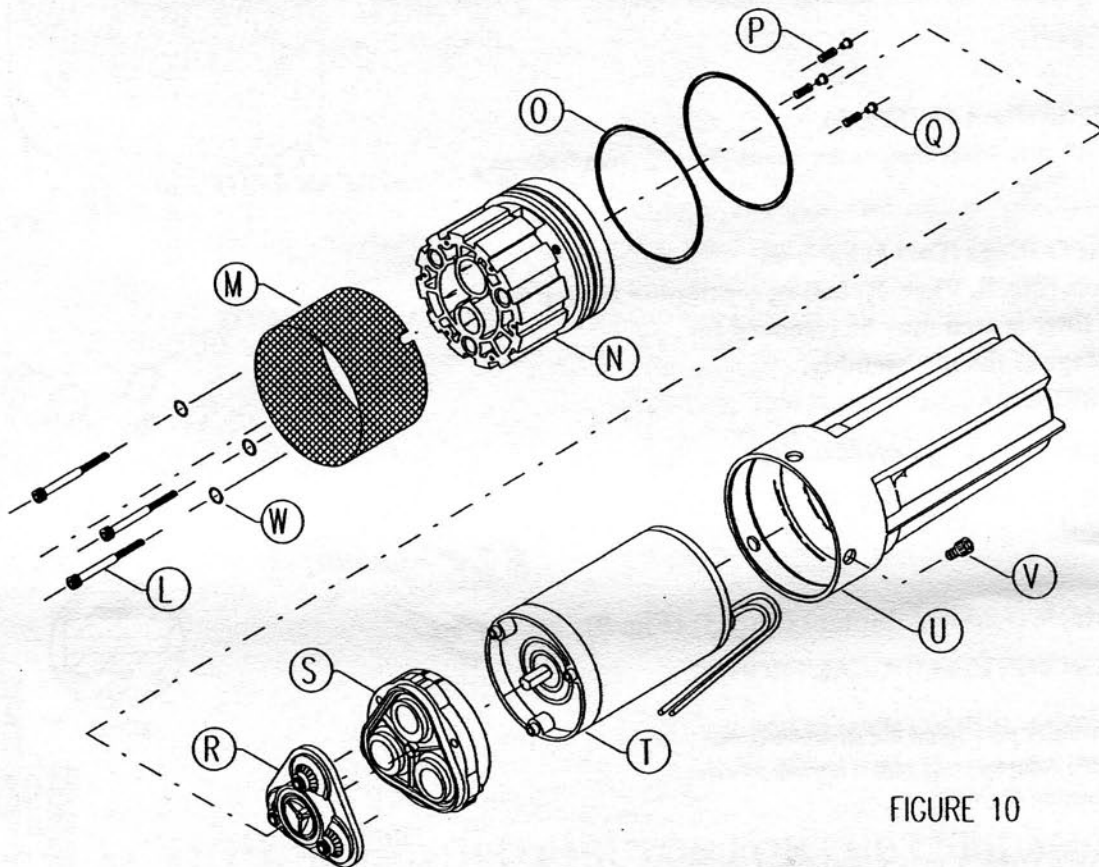

FIGURE 10
7) Slide off the Filter Screen (Part M) (Fig. 10).
8) Remove the Canister (Part U) (Fig. 10).
9) Remove Upper Housing (Part N) and Motor (Part T) (Fig. 10).